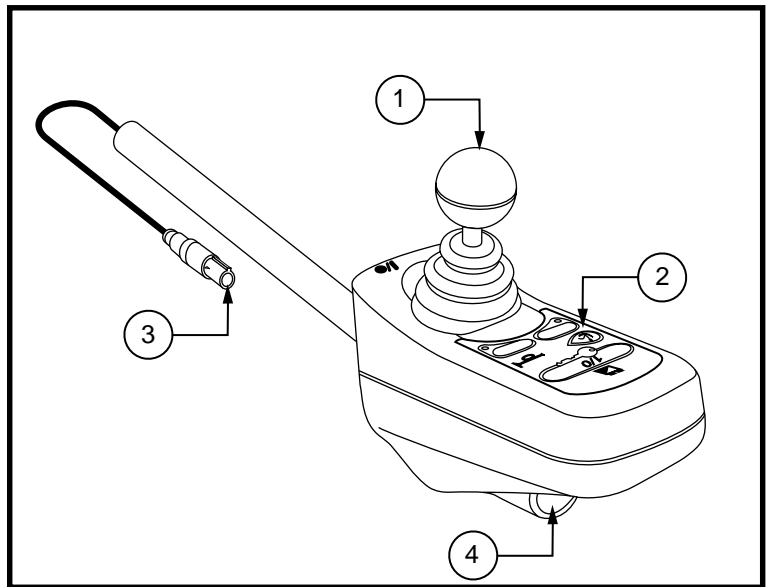

Figure 30. Europa Master Remote
- Europa master remote (see figure 30)